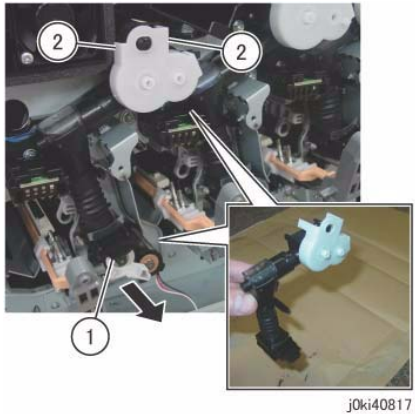

Figure 10 Remove the Dispenser Pipe (k)
14. Remove the Dispenser Pipe (K). (Figure 10)
- a. Pull the joint section between the Dispenser Pipe (K) and the Guide Assembly (K) towards you.
- b. Release the hooks (x2) and remove the Dispenser Pipe (K).